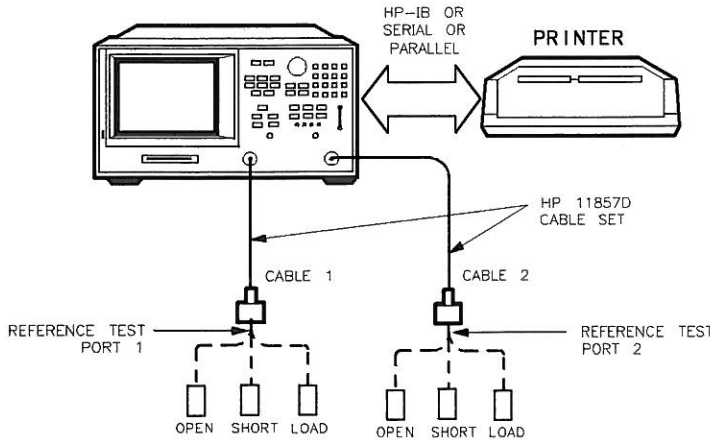

Figure 1-8. System Verification Test Setup
1. Connect the equipment as shown in Figure 1-8. Let the analyzer warm up for one hour.
12. Connect the "open" end of the open/short combination (supplied in the calibration kit) to reference test port 1, as shown in Figure 1-8.
18. When the analyzer finishes measuring the standard, connect the "open" end of the open/short combination to reference test port 2, as shown in Figure 1-8.